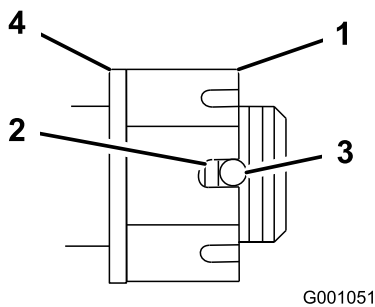

Figure 48
4. Torque the slotted nut to 125 ft-lb (170 N-m) (Figure 48).
5. Check the distance from bottom of slot in nut to inside edge of hole. Two threads or less should be showing (Figure 48).
7. Torque the slotted nut to 125 ft-lb. (170 N-m) (Figure 48).
8. Tighten the nut until the next set of slots line up with the hole in the shaft (Figure 48).